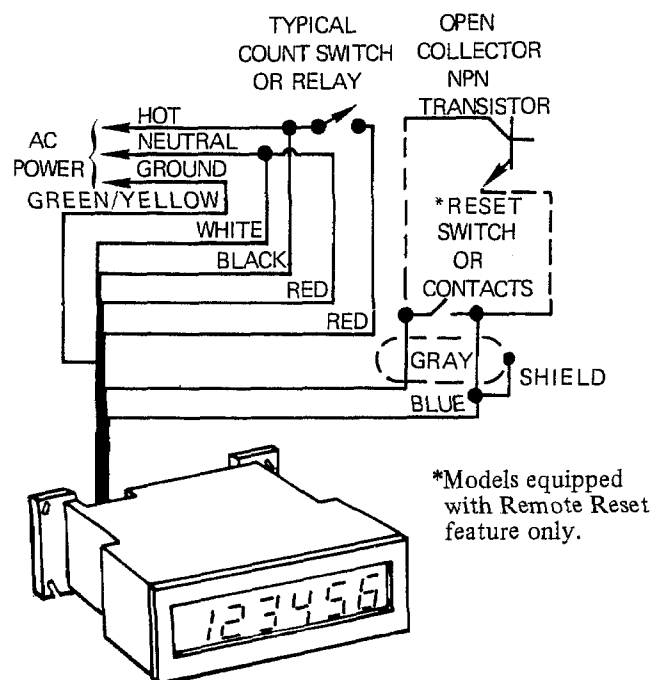

Figure 3. Connecting Series 7995.
B. CONNECTING SERIES 7995. Connect the Series 7995 to 115 or 230 VAC depending on model, and the count switch as shown in Figure 3. On Remote Reset Model, connect the blue and gray wires to the reset switch remote contact or open collector NPN transistor.
C. VEEDER-ROOT INPUT DEVICES. Many Veeder-Root sensors interface with the Series 7995. See Figures 3 and 4 for connecting diagrams.